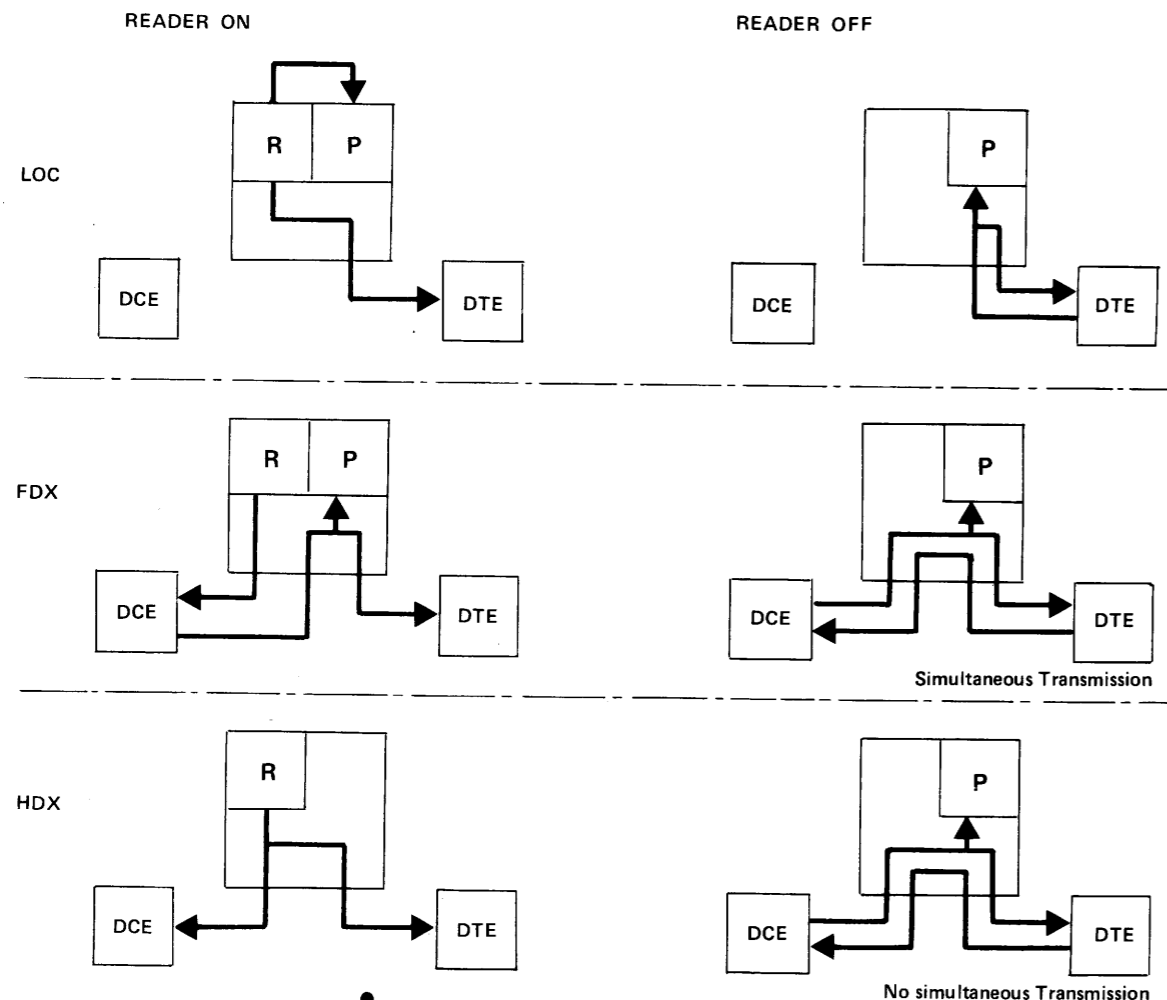

Fig. 3.1 Data flow diagram
3.5.1 MODE (See the Data Flow Diagram, Fig. 3.1)